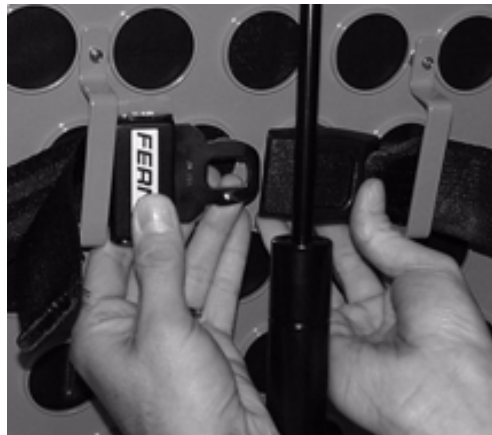

Figure 22 – Fastening the Pedi-Mate™ Buckle
4. Wrap the straps around the backrest and insert the ends of the straps through the brackets. Securely fasten the buckle (see Figure 22).